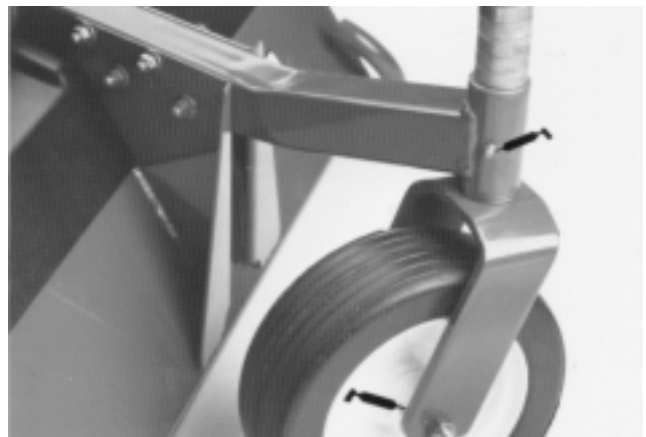

Figure 14
- front castor spindle bushings (Fig. 14)
- castor wheel bearings (Fig. 14 and 15)